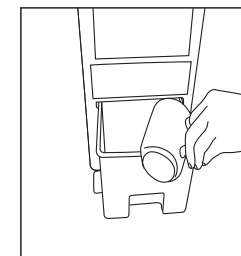

fig. 2
4. Pull upwards the water tank and pull outwards about 10cm to the locking pin, then add water. (as shown in fig.2)